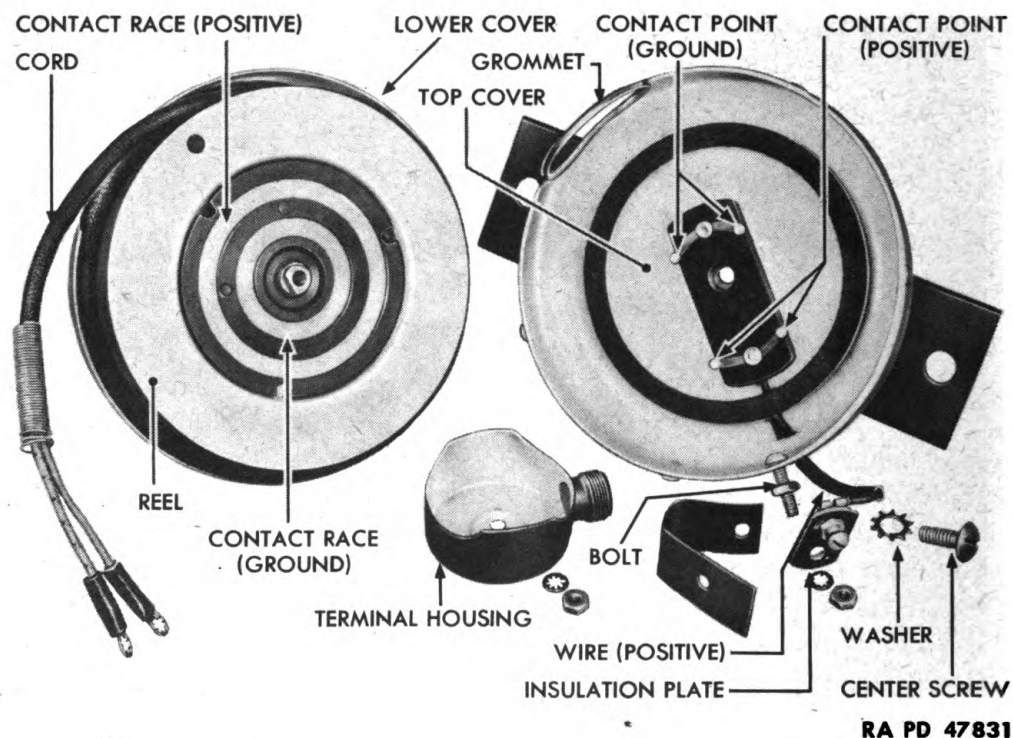

Figure 69 — Signal Light Reel — Disassembled
a. **Disassembly (fig. 69).** Remove center screw and star washer, and remove top cover from body. Allow reel to unwind, and remove metal grommet from cord outlet opening.
c. **Assembly (fig. 69).** Wind wire on reel, being careful not to allow wiring to kink or twist, then wind reel about five turns to put tension on spring. Hold reel and lower cover together with spring under this tension, and shake assembly until spring stop falls into place. The action of this spring is similar to that of an ordinary window shade roller. Place metal grommet over wiring and in posi-